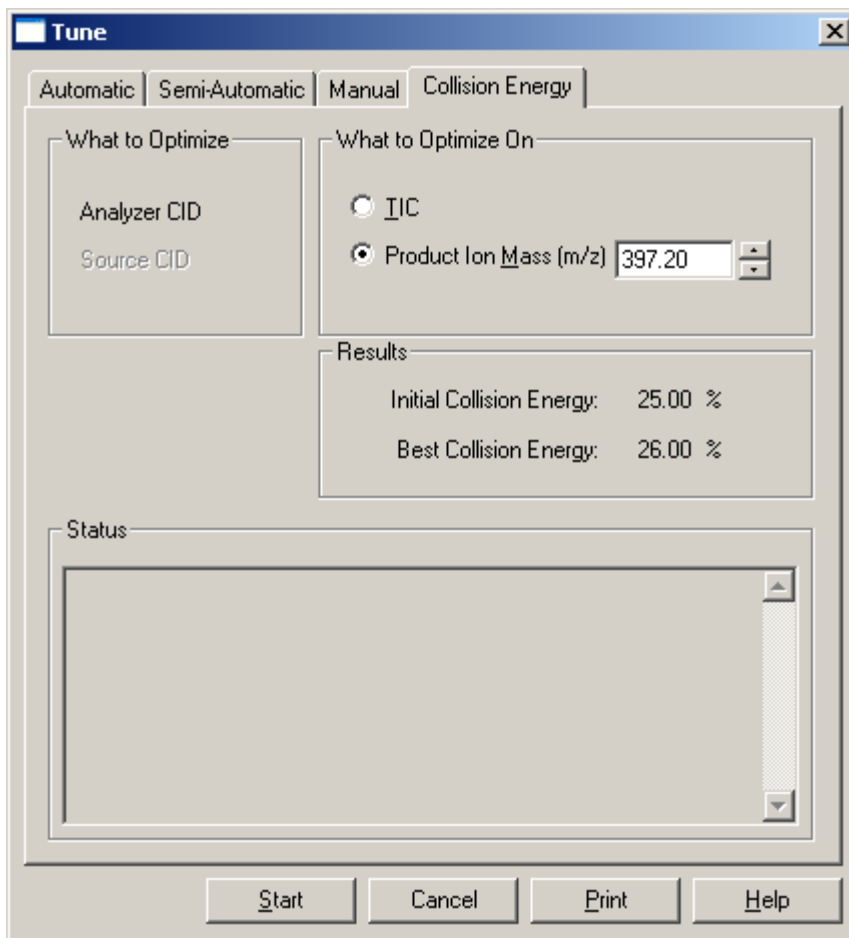

Figure 40. Tune dialog box, showing the Collision Energy page
11. In the Tune dialog box, click on the Collision Energy tab to display the page. See Figure 40.
1. In the Tune dialog box, on the Collision Energy page (Figure 40), click **Start** to start the optimization procedure. A message box displays the following message: